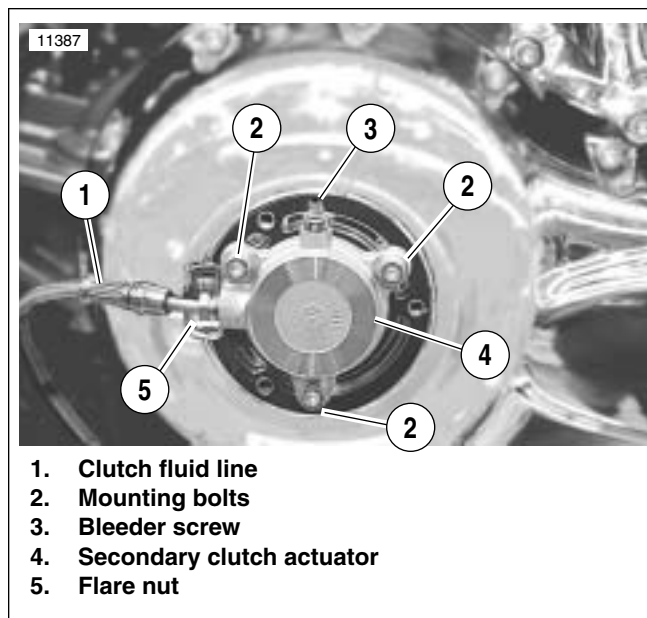

Figure 2-50. Secondary Clutch Actuator Installed
2. See Figure 2-50. Remove mounting bolts (2) holding secondary clutch actuator (4) to clutch cover.
4. See Figure 2-50. If condition indicates replacement of secondary actuator:
- a. Place a suitable container under secondary clutch actuator (4). Loosen flare nut (5) and allow clutch fluid to drain from clutch line (1).
5. Fit boot (7) to piston (6) and push edge of boot over machined lip around housing (1).
6. Fit **new** O-ring (3) to bleeder screw (2) and loosely install into housing.